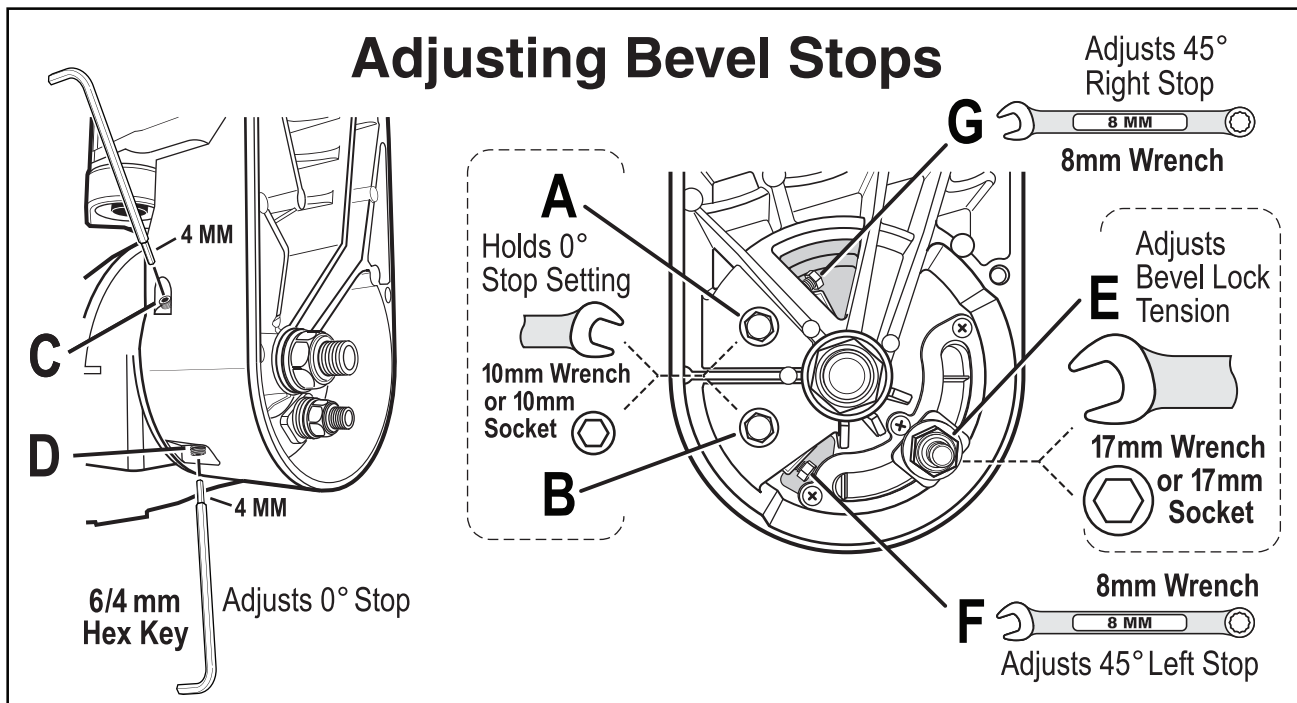

Figure 23
2. Loosen bolt heads “A” and “B” using a 10mm open end wrench or socket (with socket wrench). Loosen bolts at least one full turn (see Figure 23).